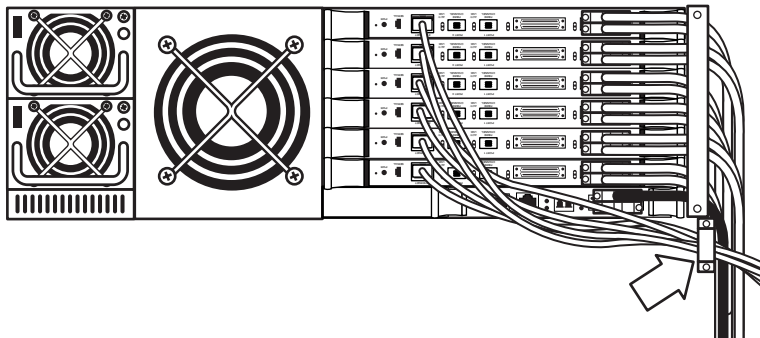

Figure 54: Routing Ethernet cables through the SCSI (and FC) cable clamp
- If you have SCSI drive cables, open the cable clamp located on the upper right side of the top drive cluster by removing the screw. Route the Ethernet cables through the cable clamp, and then reattach the screw to secure it to the card cage (see Figure 54).